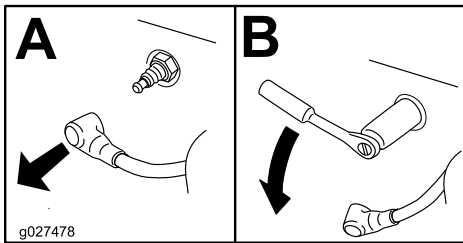

Figure 47
4. Locate and remove the spark plug(s) as shown in Figure 47.